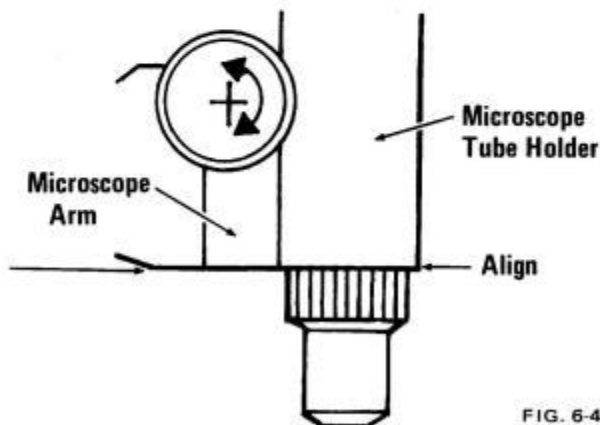

FIG. 6-4
- b) Rotate focus knob to align edge of microscope tube holder with edge of microscope arm. Fig. 6-4.
- a) Align the edge of microscope tube holder with the edge of the microscope arm. Fig. 6-4.
- c) Remove any focus spacers (11) from 1st lens group housing (3); place first lens group in holding tool 3650523.
- b) Align the edge of microscope tube holder with the edge of microscope arm. Fig. 6-4.
- c) Loosen retainer ring (35) then place second lens group and housing in Tool No. 3650524.
- b) Align the edge of microscope tube holder with the edge of the microscope arm. Fig. 6-4.
- c) Align the edge of microscope tube with edge of microscope arm. Fig. 6-4.
- b) Align the edge of microscope tube with the edge of the microscope arm. Fig. 6-4.